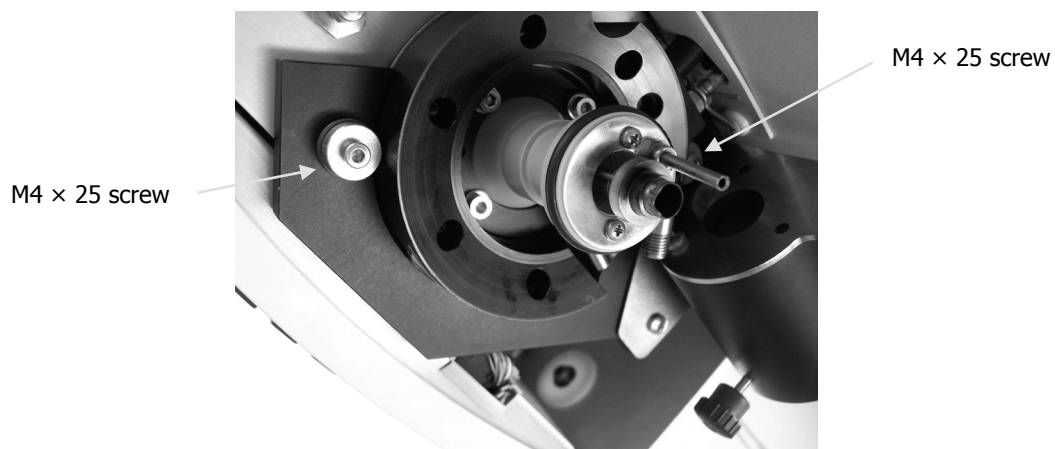

Figure 55 Fitting the gas transfer line sleeve support to the ionizer
10. Using an appropriate Allen key, secure the flange to the underside of the ionizer using the two M4 × 25 screws provided, each with three elastic washers (Figure 55).